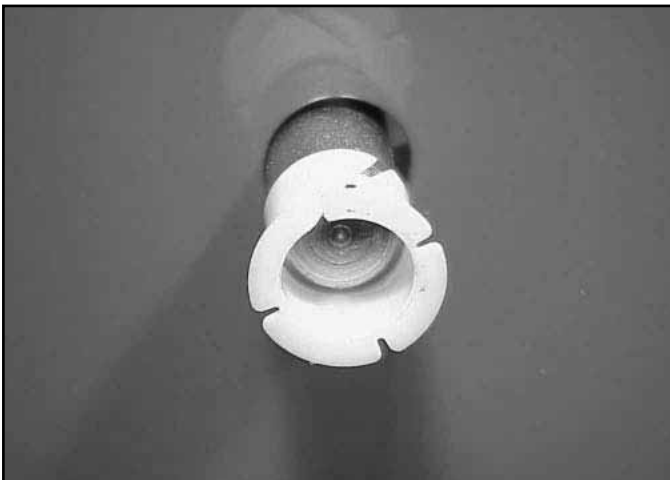

Fig 142
25. Remove retaining ring from both sides of housing (Fig. 141) and slide the nyliner bushing off the pivot pulley plate shaft (Fig. 142).